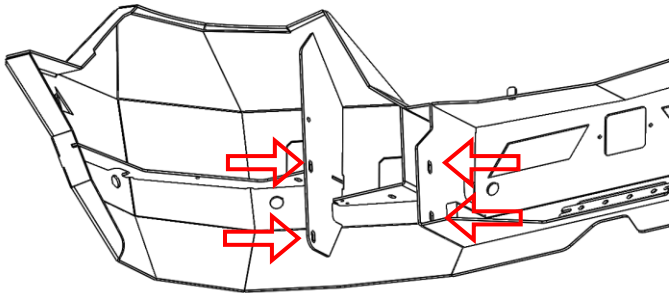

Figure 28: Mounting Locations, Aluminum to Steel Winch Tray (Repeat for Other Side)
28. Ensuring no wiring will get pinched, slide the aluminum front bumper onto winch tray and align the four (4) mounting holes per side (See Figure 28).